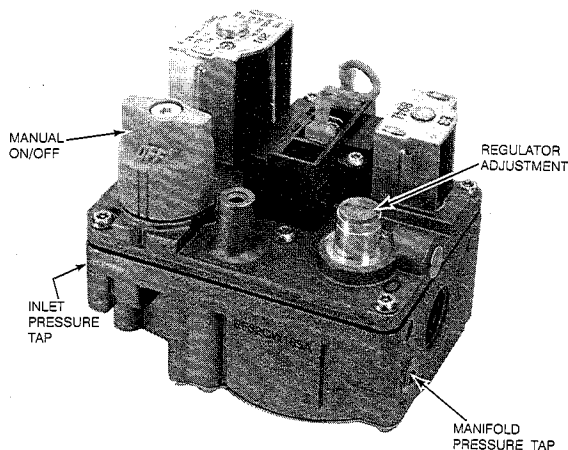

Figure 14—Redundant Automatic Gas Control Valve A90044
- (1.) Remove regulator adjustment seal cap. See Figure 14.